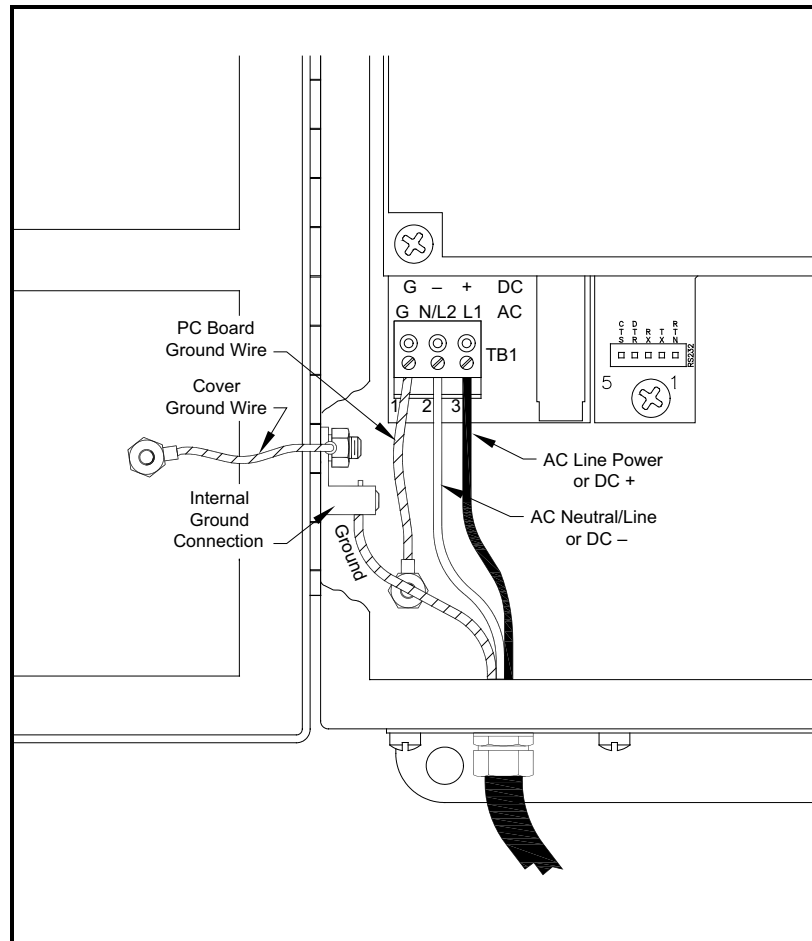

Figure 3: Wiring the Line Power
Refer to Figure 3 on page 8 or Figure 10 on page 20 to locate terminal block TB1 and connect the line power as follows:
3. Connect the ground lead to the internal ground connection located on the side panel of the inclosure (see Figure 3 below).
4. Connect the neutral or line lead (or the negative – DC power lead) to TB1-2 and the line power lead (or the positive + DC power lead) to TB1-3 as shown in Figure 3 below.